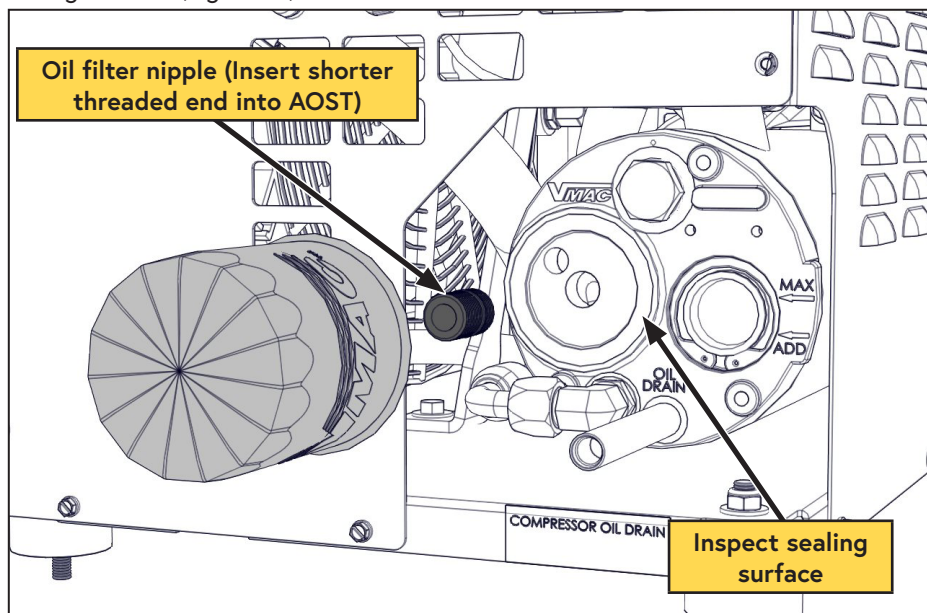

Figure 29 — Compressor oil filter
- ☐ Clean the gasket sealing surface on the front of the AOST and inspect it for damage. The surface must be free of old gasket material and smooth to ensure a good seal (Figure 29).